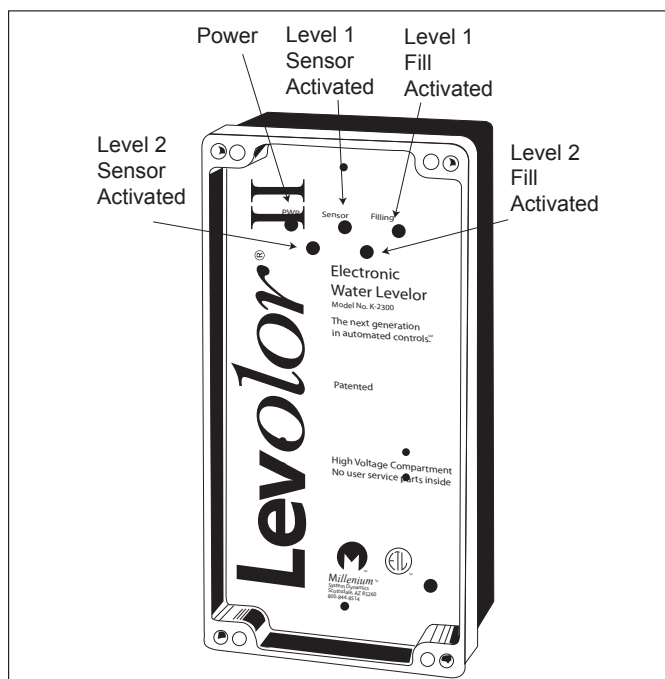

Figure 25. K-2300 Controller Lights
The controller for the K-2300 (See Figure 25) has five (5) lights.